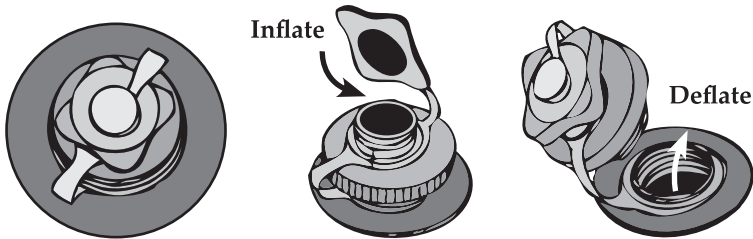

Figure 2. Inflate/Deflate Boston Valve
3. Locate chamber 3 “floor” at the stern of the kayak (access through the zipper on the cargo bay). Make sure the valve body is screwed in tightly. Remove small cap (See Figure 2) and use appropriate pump nozzle. Inflate chamber until firm (1.0 psi **ONLY**). **Do not over inflate!**
3. Unscrew the valve body to chamber 3 (See Figure 2) to release the air.